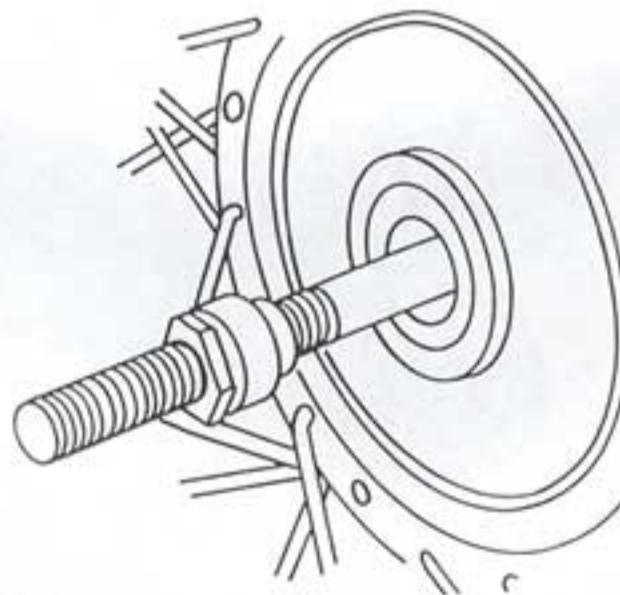

Fig. 5
- Insert the axle in the nut, fit the other balls and fix the other oil deflector (fig. 5).